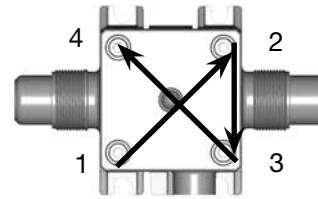

Fig. 11
- Tighten the socket head cap screws in a crisscross pattern using a hex wrench, as shown in Fig. 11, until actuator assembly is flush with the valve body.